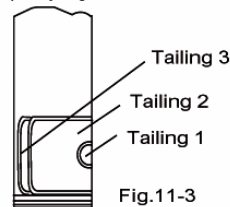
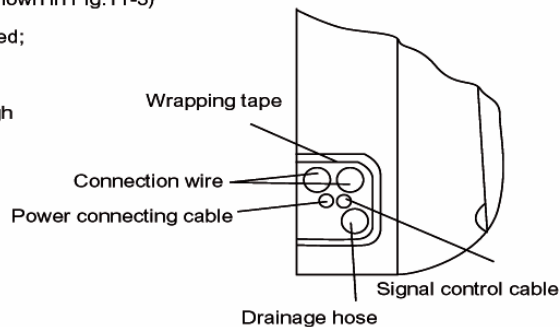

Fig.11-3
Fig.11-4
- When routing the pipe (wiring) from the left or right side, cut off the tailings of the left pipe on base of main unit. (as shown in Fig.11-3)
- ① Cut off tailing 1, tailing 2 only power cable is routed;
- ② Cut off tailing 1, tailing 2 when connection pipe and power cord are routed;
- After wrapped piping and wiring, pull them through the piping hole; As shown in Fig.11-4